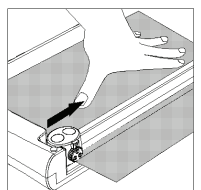

Fig. 2
- 2.5 To complete the cut, press the cutting head down and slide it along the guide rail to the other side, refer to Fig. 2.